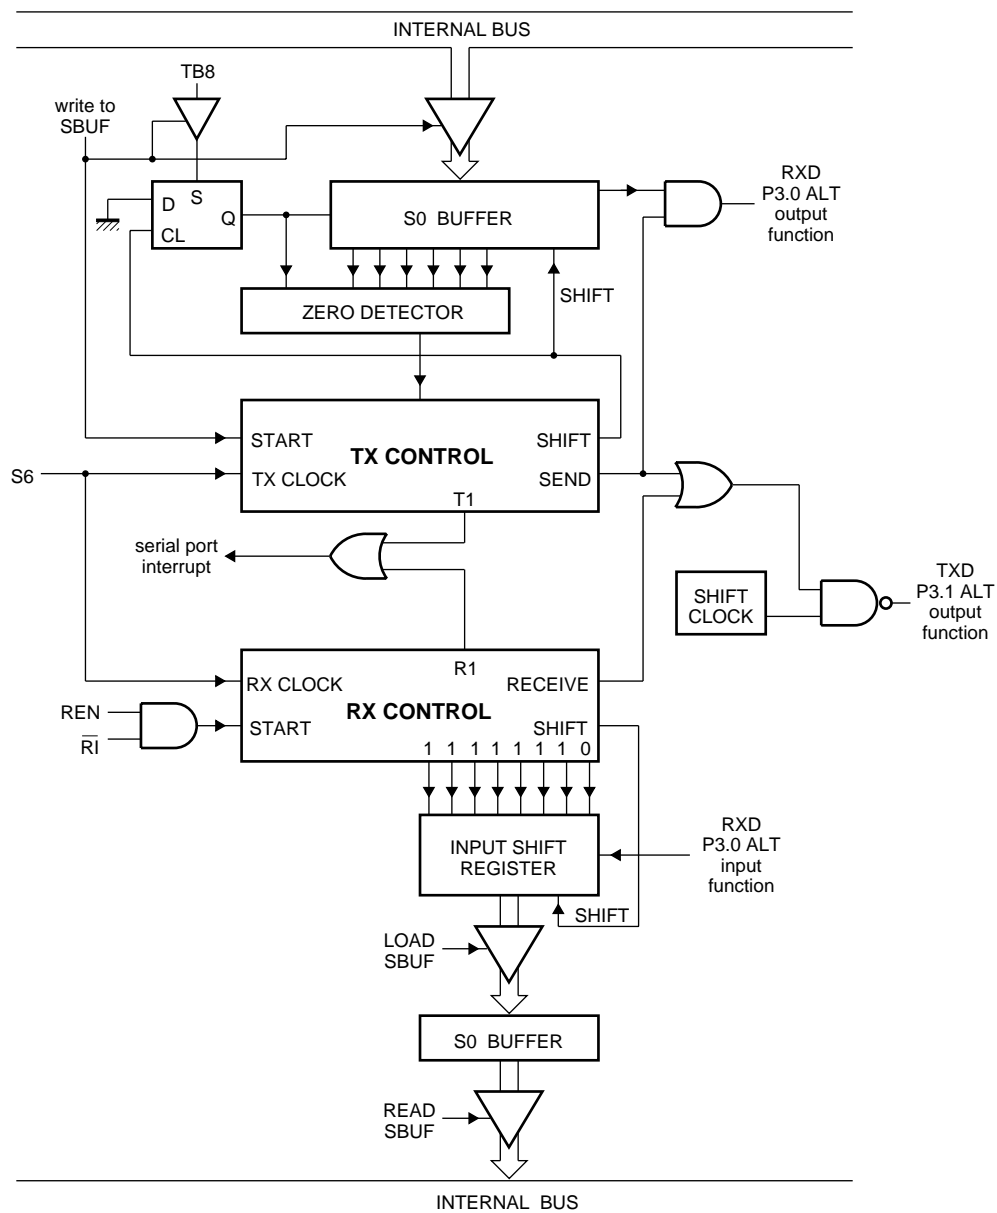

Fig.17 Serial port Mode 0.
- Mode 0 Serial data enters and exits through RXD. TXD outputs the shift clock. 8 bits are transmitted/received (LSB first). The baud rate is fixed at $\frac{1}{6}f_{clk}$. See Figs 17 and 18.